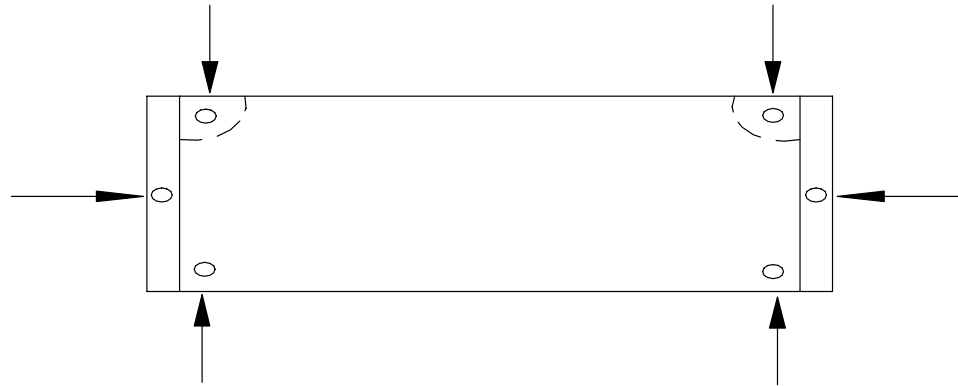

FIGURE 22 INITIAL GANTRY BOLT-DOWN POSITION
4. Carefully lower the Gantry one end at a time by rotating the caster disks in unison. Lower the Gantry over the holes in the floor (already drilled – see Equipment Positioning) until the Gantry base is about 1/2-inch above the floor. Position the Gantry over the holes and install – but **DO NOT TIGHTEN** – the six 1/2-inch bolts (S617–129) and 1/8-inch thick washers (T11–447) provided in the anchor hardware kit. Figure 22 shows the initial Gantry bolt-down positions. Lower the Gantry to the floor.